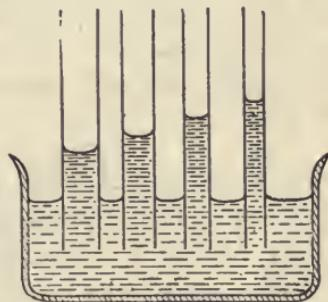

FIG. 15.—Capillary attraction in tubes.
24. Capillarity.—A striking action of the surface film of a liquid is seen in the rise of liquids in tubes of small bore when the liquid *wets* them. If the liquid *does not wet* the tube, as when mercury is placed in glass, the liquid is depressed. It is found in general that: *Liquids rise in capillary tubes when they wet them and are depressed in tubes which they do not wet; the smaller the diameter of the tube the greater the change of level.* (See Fig. 15.) This action is explained as follows: The molecules of a liquid have an attraction for each other and also for the sides of a tube. The former is called "cohesion for itself," the latter is called "adhesion for the sides of the containing vessel." If the cohesion for itself is greater than the adhesion for the side of the containing vessel, the liquid is pulled away from the side and is depressed. If the adhesion is greater, the liquid is elevated. This action is called "capillary action" from the Latin word (*capillus*) signifying hair, since it shows best in fine hairlike tubes.